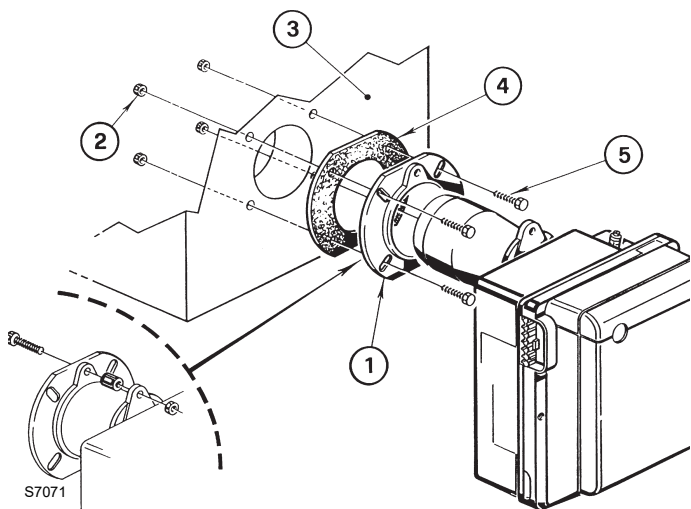

Fig. 4
- Put on the flange (1) the screw and two nuts, (see Fig. 4).
- Widen, if necessary, the insulating gasket holes (4).
- Fix the flange (1) to the heat generator door (3) using screws (5) and (if necessary) the nuts (2) interposing the insulating gasket (4), (see Fig. 4).